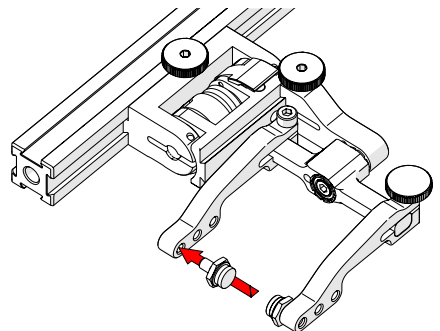

Fig. 47 - Place pivot buttons
4. Using the supplied 3/8 in wrench (Fig. 16), place the pivot buttons as required (Fig. 47).